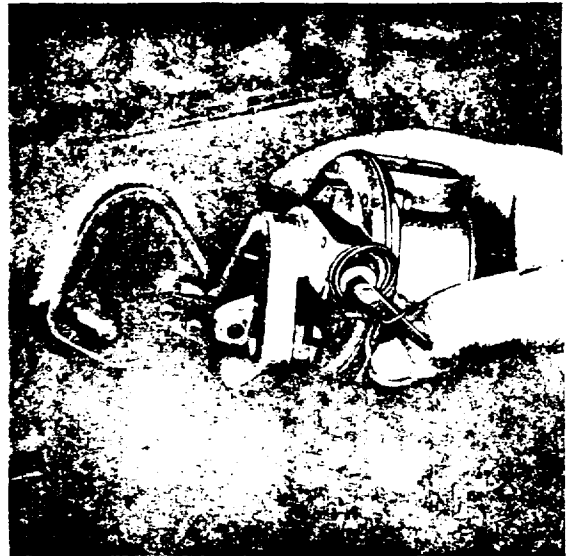

Fig. K.10.
5. Remove the fuel lift pump (see Fig. K.10).